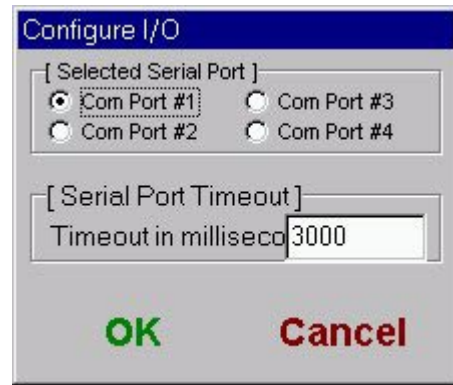

Figure 14 Capture I/O Dialog
11. Click the *right* mouse button over the Capture software panel (do not click over the 'Start' or '?' buttons), select 'Configure I/O' (shown in Figure 14), then select your COM port.